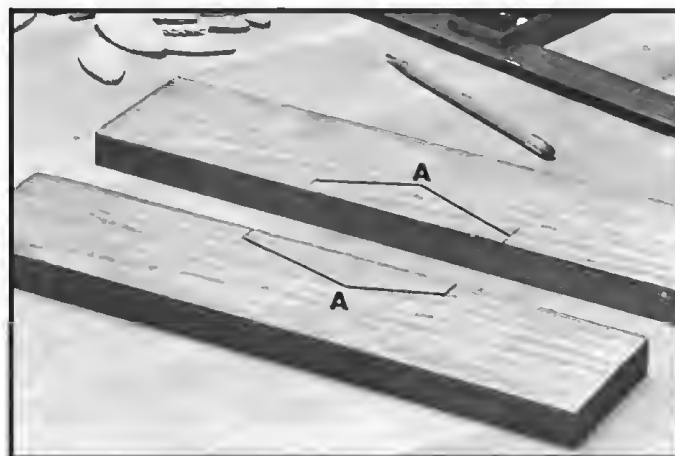

Fig. 33
1. Mark the two boards to be edge joined together at the points where the biscuits are to be placed, as shown at (A) Fig. 33. These marks indicate the center of the biscuit cut and should be on the opposite surface of the boards you want perfectly matched. If boards are of different thickness, be sure the "good" or face side of the boards are "down."